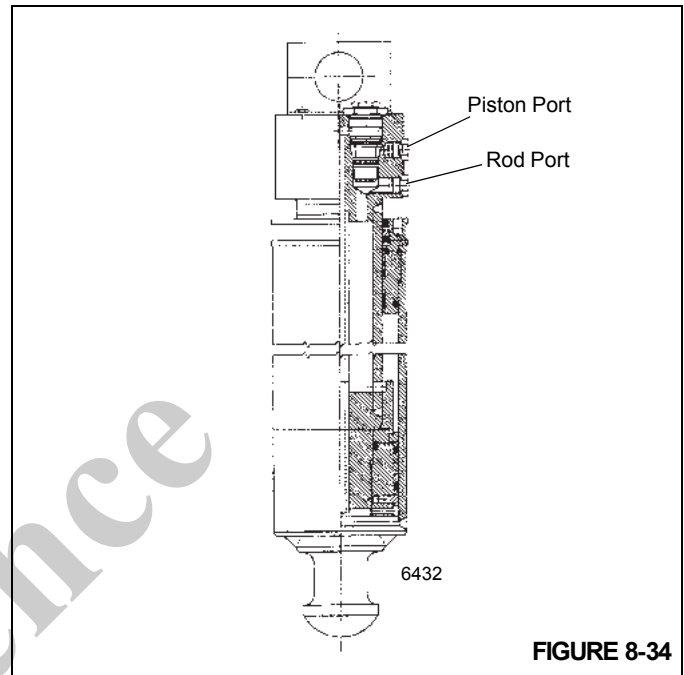

FIGURE 8-34
2. Remove the rod side cylinder hose from the suspected leaking jack cylinder (Figure 8-34). Oil will flow until the cavity in the cylinder port block empties. Once the port block cavity empties, oil should stop flowing from the rod side port.
2. Remove the piston side cylinder hose from the suspected leaking jack cylinder, see (Figure 8-34). Oil will flow until the cavity in the cylinder port block empties. Once the port block cavity empties, oil should stop flowing from the piston side port.